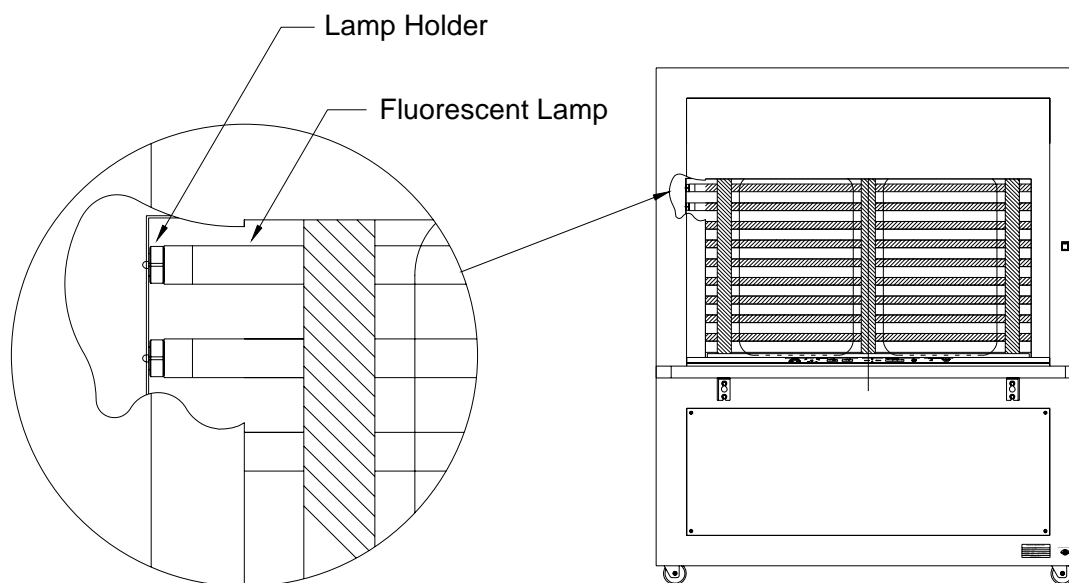

Figure 5-7-1.
- The viewing area should now look similar to Figure 5-7-1.